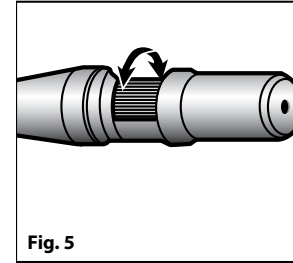

Fig. 5
- Turn boresighter on (Fig. 5).